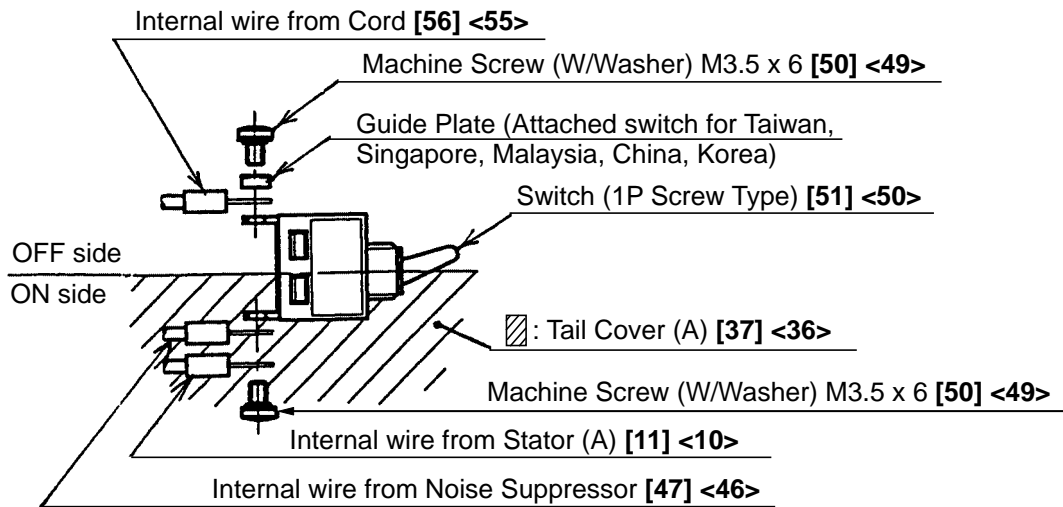
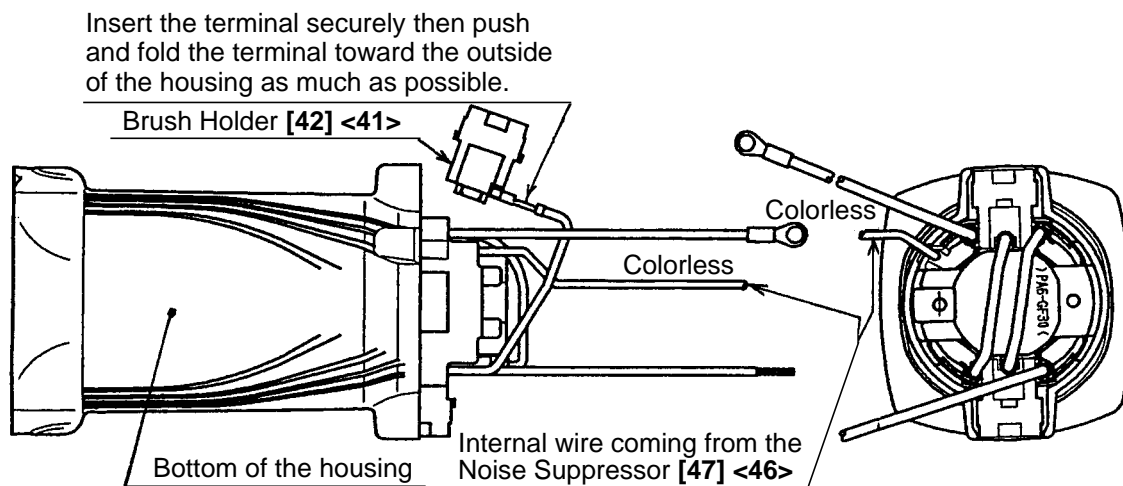

Fig. 8
Fig. 9
- (7) Connect the internal wires of Stator (A) [11] <10> correctly as shown in Fig. 8 and Fig. 9.